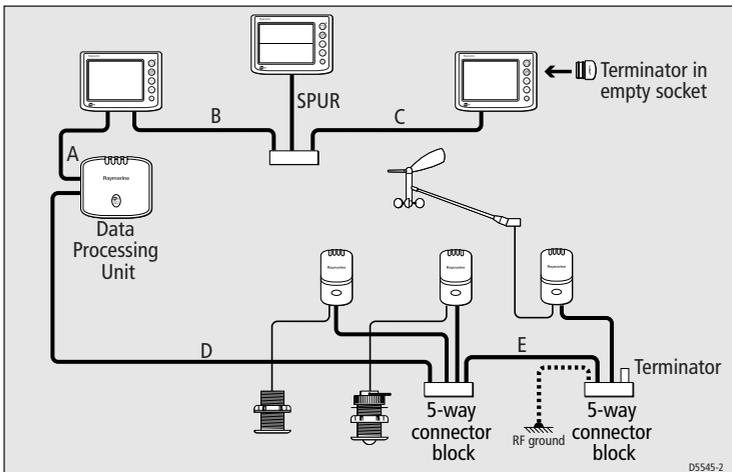

Figure 1-10: SeaTALK2 dimensions
- A terminator plug is required AT EACH END of the main SeaTALK2 cable run (see *Figure 1-10*).
- The total length of the SeaTALK2 main cable run must be no more than 655 ft (200 m). The main cable run is defined as the total length of cable between the two terminators. For example, in *Figure 1-10*, the length of the main cable run is the sum of distances A+B+C+D+E.